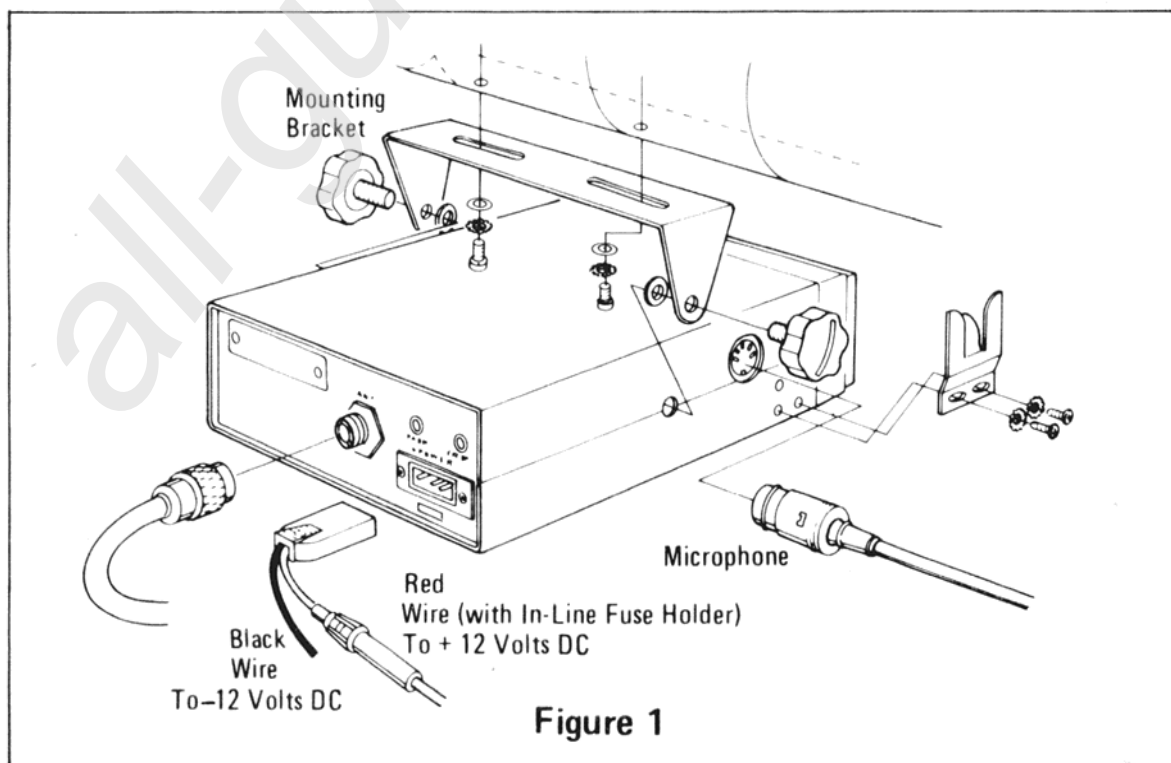

Figure 1
1. Use the mounting bracket (see Figure 1) as a template to mark the position for the mounting holes.